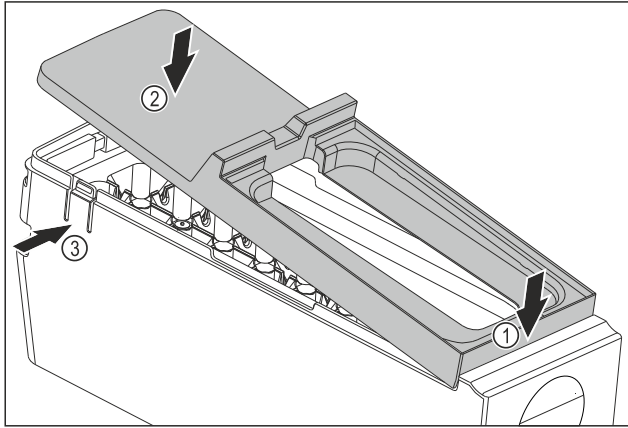

Fig. 120
- ▶ Installing the EasyTwist-Ice body cover: Place the cover on the front. Fig. 120 (1)
- ▶ Lower the cover at the rear. Fig. 120 (2)
- ▷ The cover locks into both tabs Fig. 120 (3) audibly.